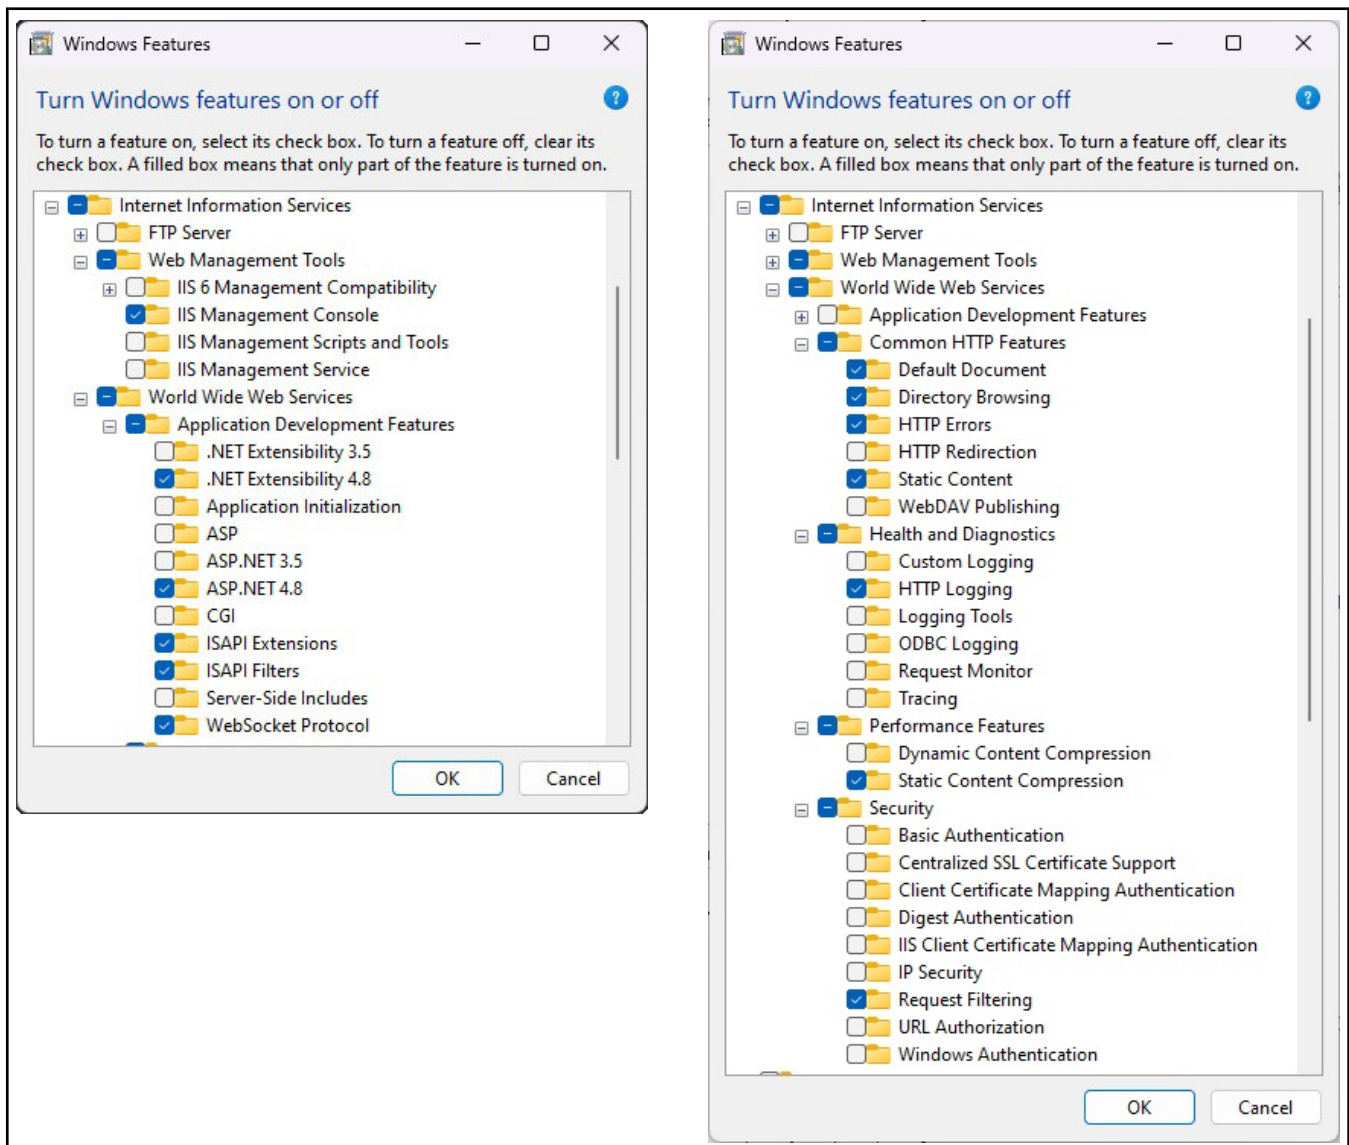

Figure 2-6. Windows Features Configured
- B.1 Windows Features window displays (see Figure 2-6 on page 12).
- B.2 Expand **Internet Information Services** tree and enable check boxes as displayed in Figure 2-6.